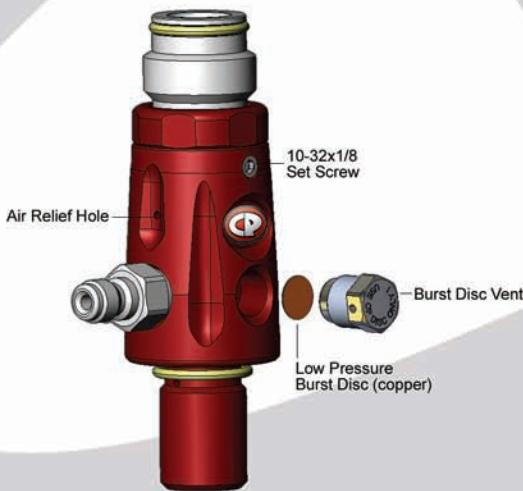
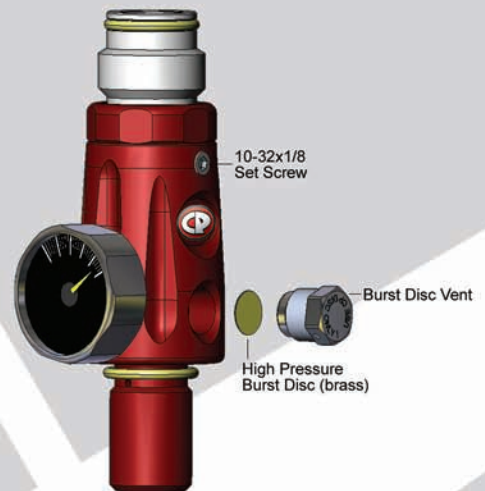

Fig.2
Fig.1
2. Replace burst disc ass seen in fig. 1 and fig. 2.
Assembly Guide Fig.2
Assembly Guide Fig.1